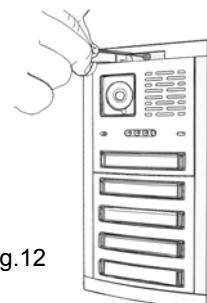

Fig.12
4.11 FERMER LA PLATINE EN VISSANT LA VIS SUPERIEURE (FIG. 12 PAGE 85).